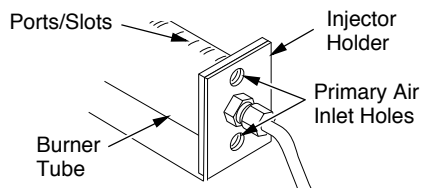

Figure 51 - Injector Holder On Outlet Burner Tube
2. Inspect burner, pilot, and primary air inlet holes on injector holder for dust and dirt (see Figure 51).